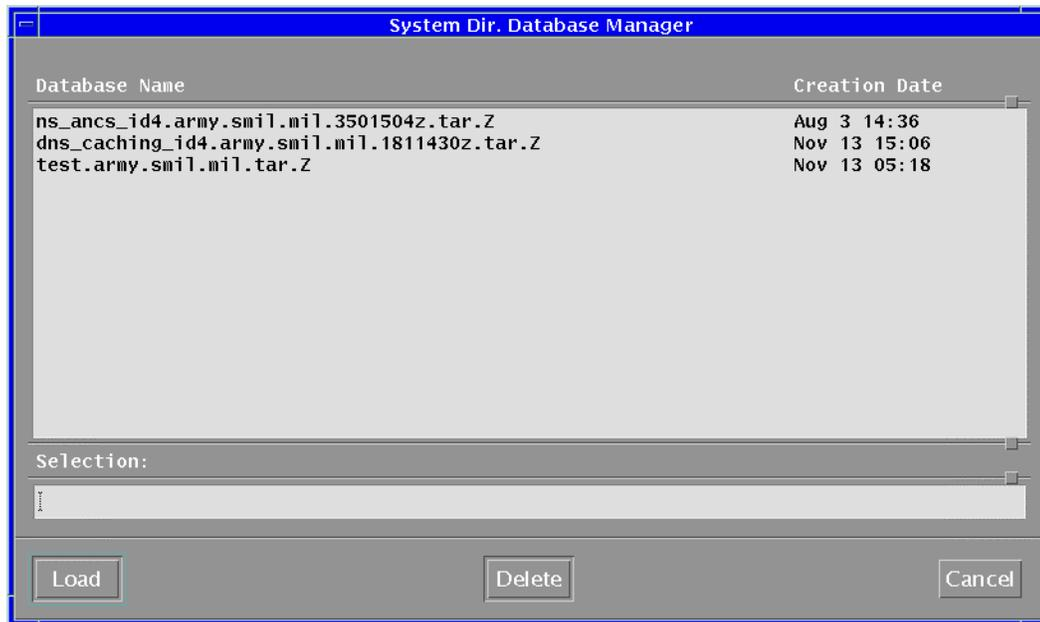

Figure 8 - System Dir. Database Manager
42. Click on the **Load From System DB Dir** button. The **System Dir. Database Manager** window will appear. See Figure 8.